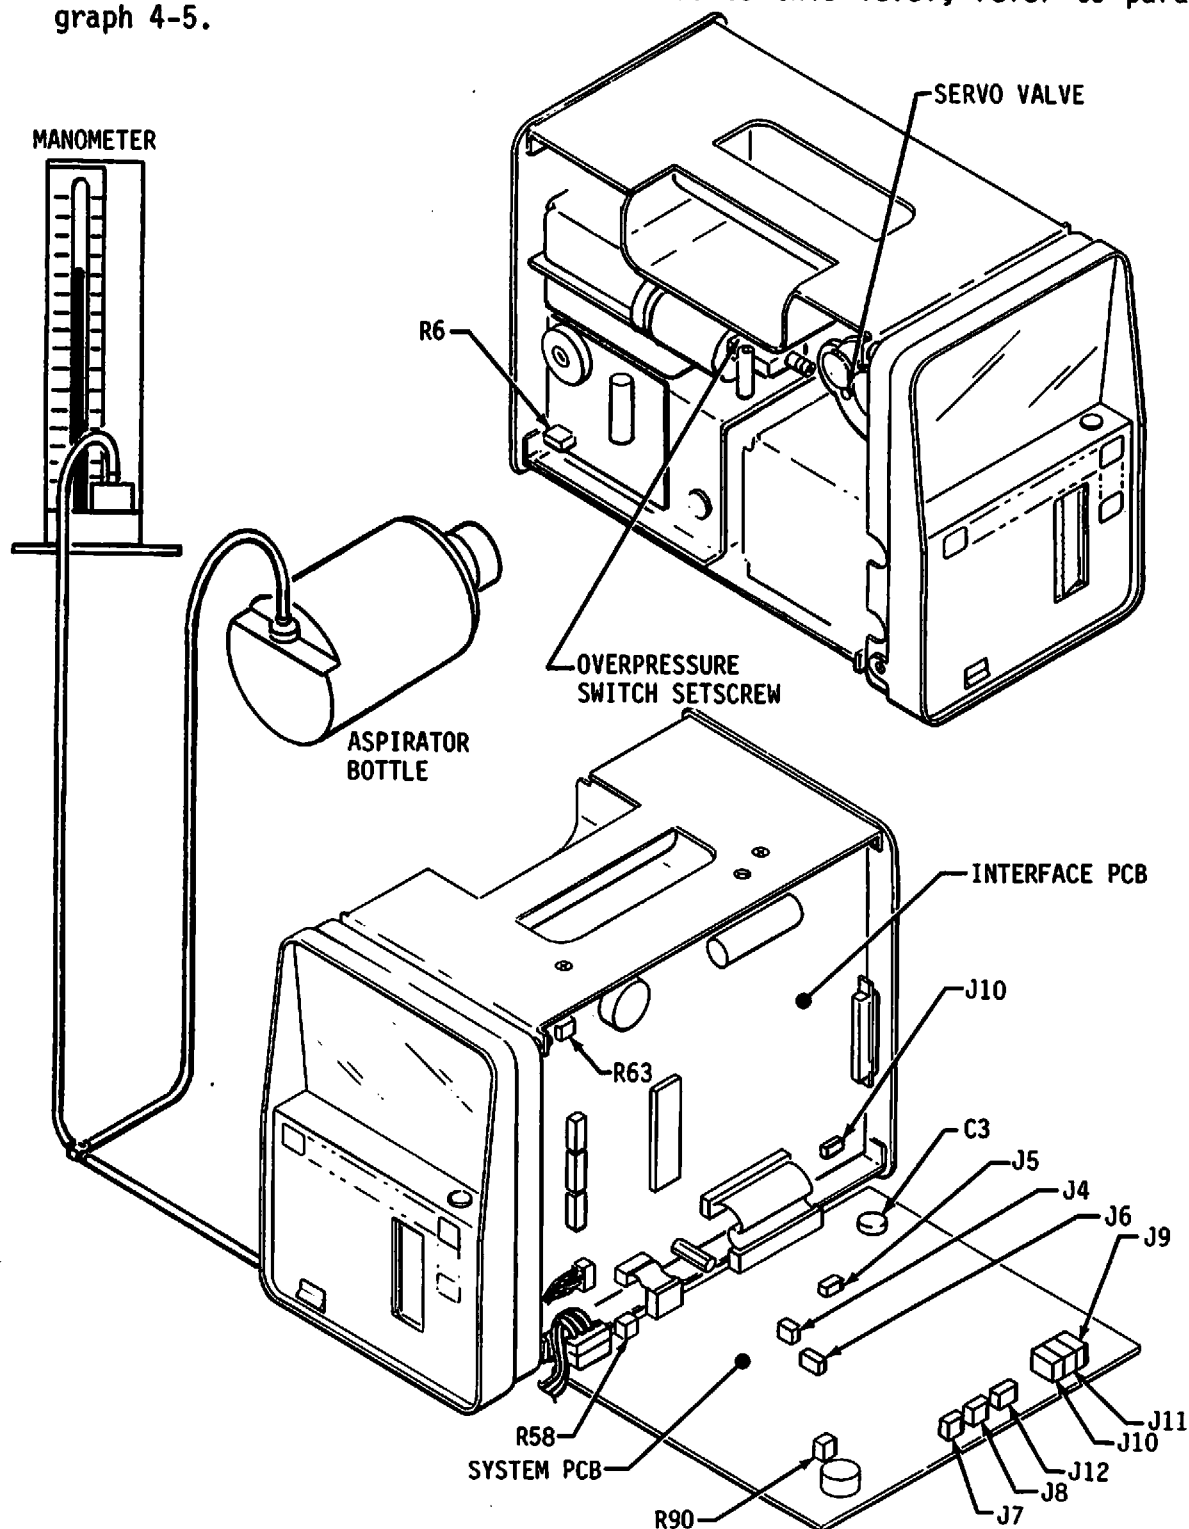

FIGURE 3-1. TEST CONFIGURATION
The procedures in this section require that the unit be in the test configuration, as shown in Figure 3-1. The test equipment connections are indicated. To disassemble the unit to this level, refer to paragraph 4-5.
- D. Verify that dc voltage across TP9(+) and TP8(-) is $+9.8 \pm 0.1\text{Vdc}$. Adjust R6, Battery Charger PCB, as necessary (see Figure 3-1).
- B. Adjust R58 System PCB (see Figure 3-1) for a reading of $-1.00 \pm .05Vdc$ at TP12. TP16 on System PCB is ground. Press STOP to auto zero the system.
- C. Connect a manometer and a 1/2 gallon aspirator bottle (see Table 3-1) to the front panel Luer fitting as shown in Figure 3-1. Zero the manometer. Press START switch.
NOTE: For some of the following tests, the open or closed position of the servo valve must be determined. This assembly is located behind the handle-mounted filter capacitor. See Figures 3-1 and 3-2. Note also that if the Servo Valve Assembly is malfunctioning it must be returned to the factory for service.